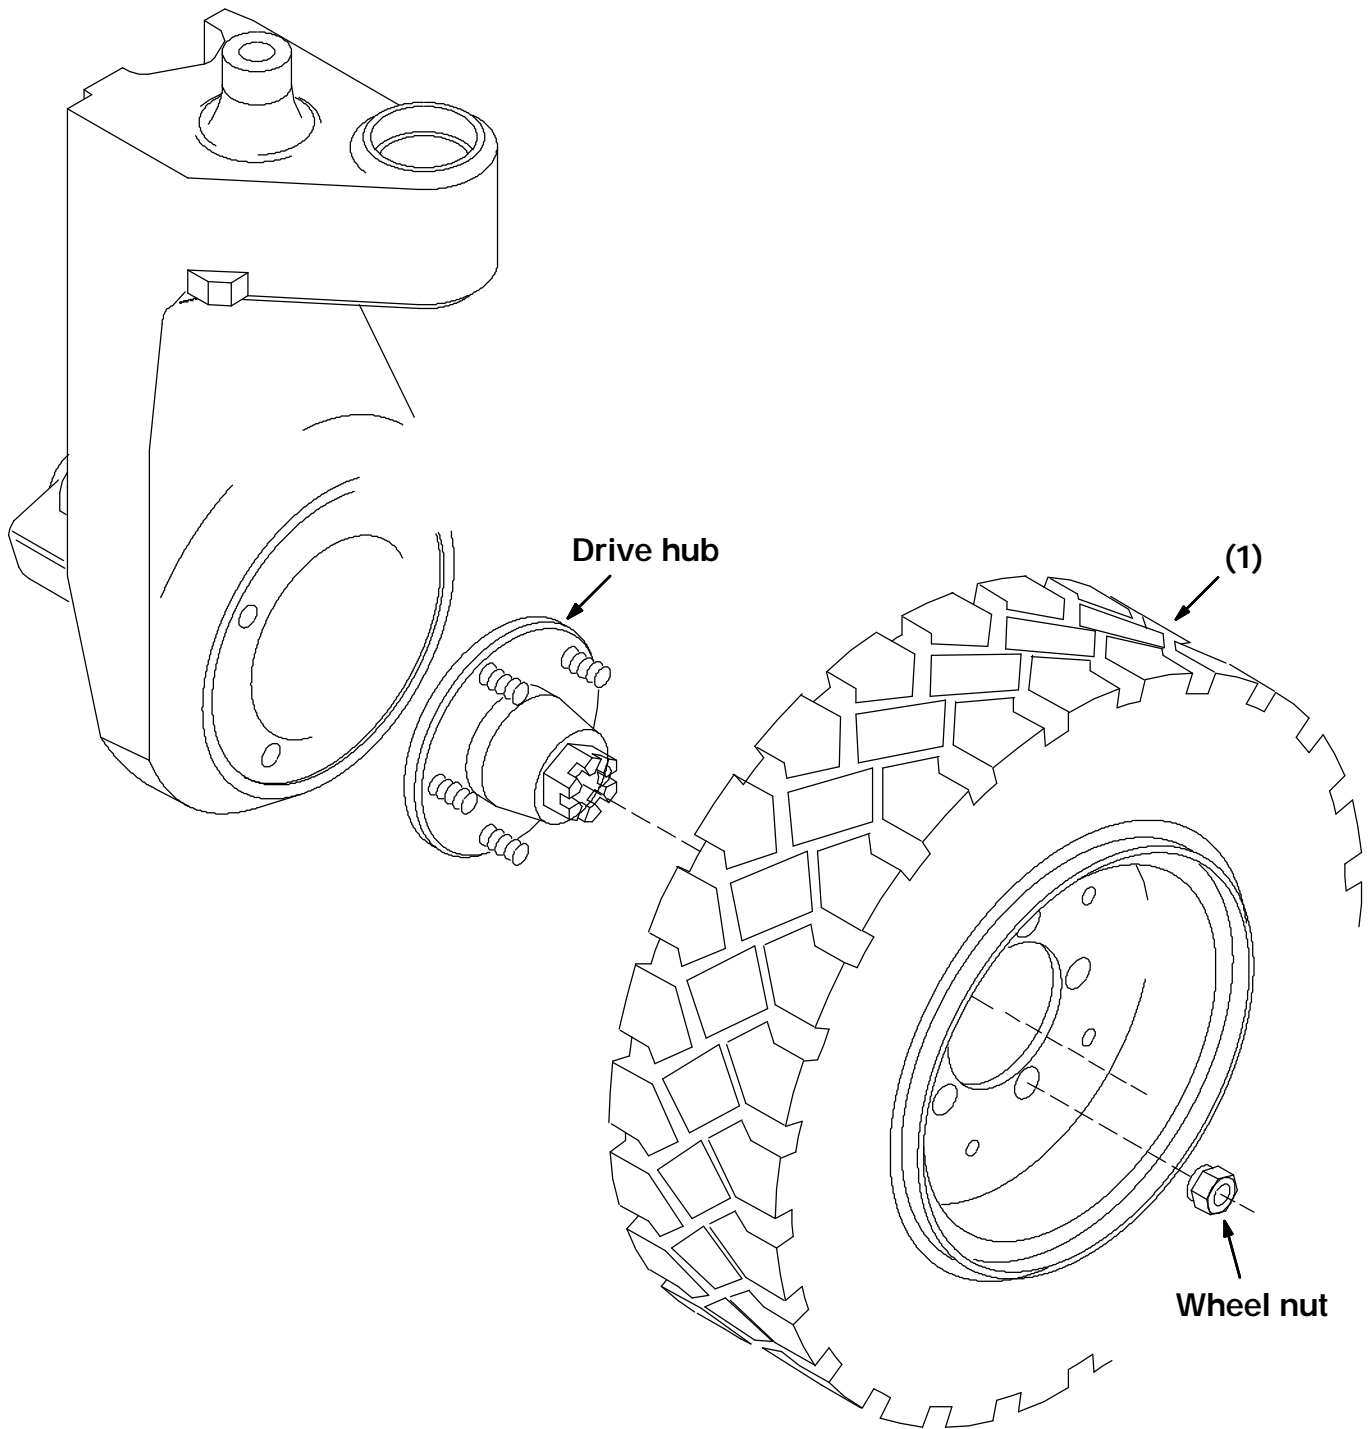

FIG. 1 - Tire Assembly
(Refer to FIG. 1)
2. Turn the rear wheel for access to the wheel nuts. (Refer to FIG. 1)
3. Remove the five wheel nuts from the tire and wheel assembly. (Refer to FIG. 1)
4. Remove the rear tire and wheel assembly from the drive motor hub. (Refer to FIG. 1)
5. Install the new solid rear tire (1) onto the drive motor hub. (Refer to FIG. 1)
6. Reinstall the five wheel nuts and tighten to 122-150 Nm (90-110 ft lb). (Refer to FIG. 1)